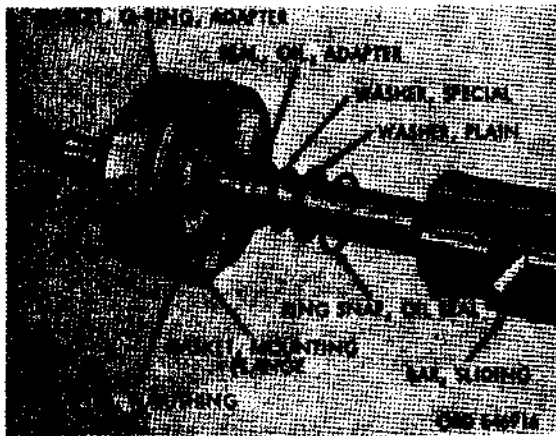

Figure 150. Adapter oil seal assembly
- (4) Remove oil seal snap ring, plain and special washers, and adapter oil seal from adapter with bushing assembly. Figure 150 illustrates proper sequence of seal components. Remove adapter O-ring gasket and mounting flange gasket.
- (2) Inspection and repair. Inspect all precision finished surfaces for burs or damages. Place piston on sliding bar and work back and forth in the cylinder. Piston should work freely and smoothly. The adapter oil seal (fig. 150) must have a snug fit on the sliding bar. Inspect integral lever block and integral lever block pin (fig. 135) for excessive wear. Refer to serviceability standards (par. 128).
- (1) Press new adapter bushing (X) into adapter, leaving bushing flush with face of adapter.
- (2) Install new adapter oil seal (MM), special washer (W), plain washer (NN), and oil seal snap ring (V) in adapter bore in the sequence as illustrated in figure 150. Install new adapter O-ring gasket (KK) on adapter assembly.
- (3) Thoroughly clean piston ring groove and install piston ring (Z) on piston (JJ).
- (4) Slide adapter with bushing assembly (Y) on the sliding bar (U) and position piston (JJ) on sliding bar. Install plain